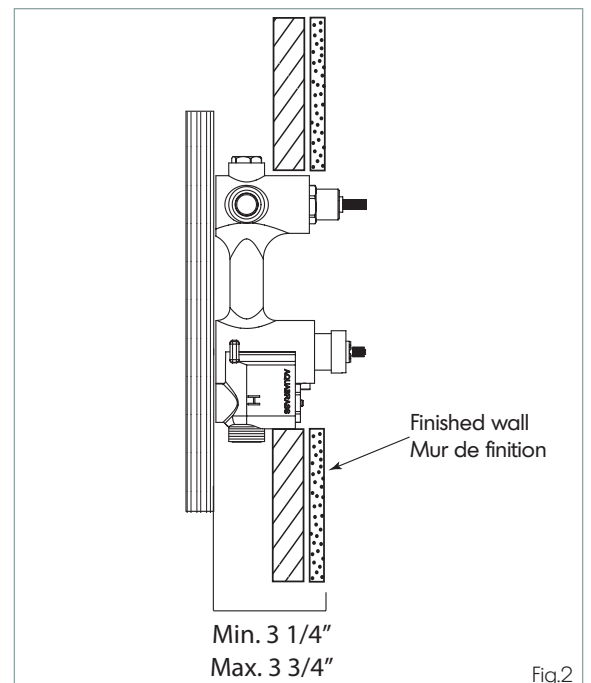

Fig.2
**⚠ TO ENSURE PROPER INSTALLATION OF THE VALVE INSIDE THE WALL, IT IS VERY IMPORTANT TO FOLLOW THE RECOMMENDED DEPTH AS INDICATED IN THE ILLUSTRATION (Fig.2).**
**⚠ AFIN D'OBTENIR UNE INSTALLATION CORRECTE DE LA VALVE, IL EST IMPORTANT DE RESPECTER LA PROFONDEUR SUGGÉRÉE TEL QU'ILLUSTRÉ (Fig.2).**